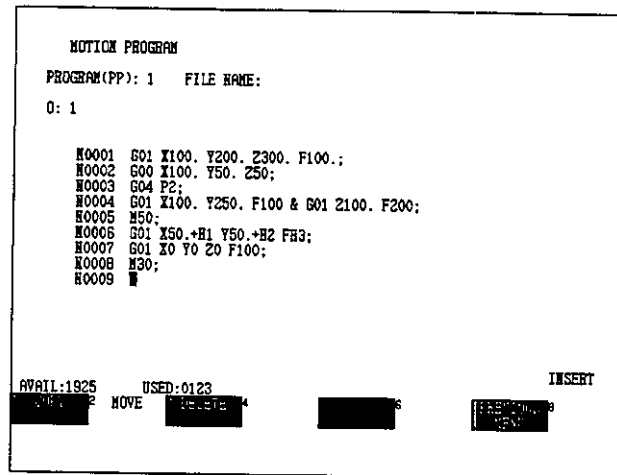

Figure 6.308
- 1) Display the Edit Screen shown in *Figure 6.308*.
1) Display the Edit Screen shown in Figure 6.308.